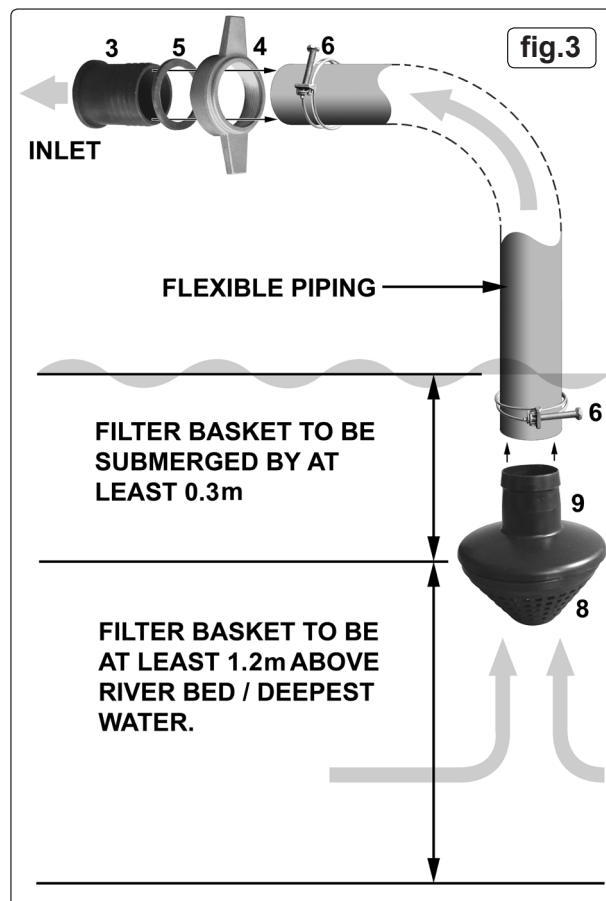

fig.3
- 4.1.4 Snap the filter basket cover (9) onto the top of the filter basket (8) as shown in fig.3.
4.2 CONNECTION TO FLEXIBLE PIPING (See fig.3)
- 4.2.5 Submerge the filter basket in the water to be pumped. The filter basket must be at least 0.3m below the surface of the water and 1.2m above the deepest part of the water to prevent debris blocking the filter basket. (See fig.3). Ensure that the suction pipe remains in the position intended.